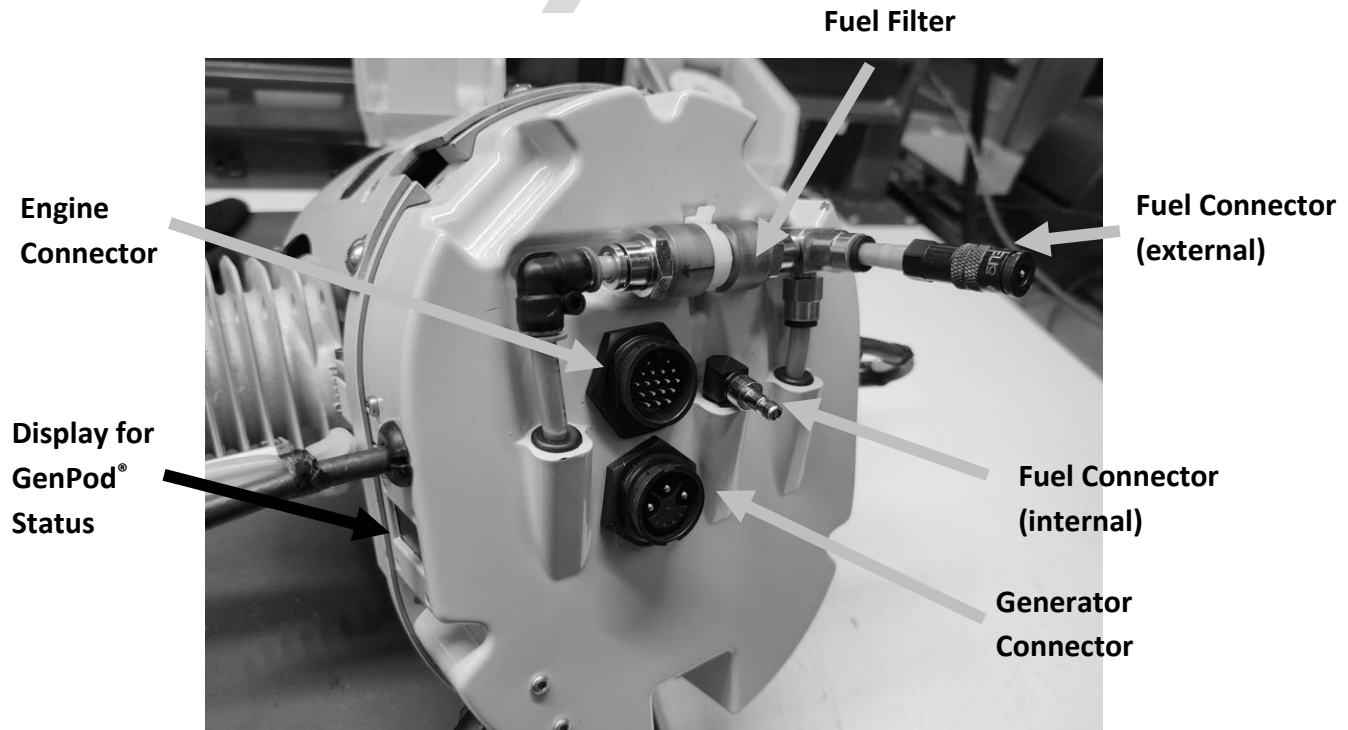

Figure 1. GenPod® Connections and Components
5. The GenPod® uses a Sullivan PMU and alternator. Connect the Engine as shown in **Figure 1**.